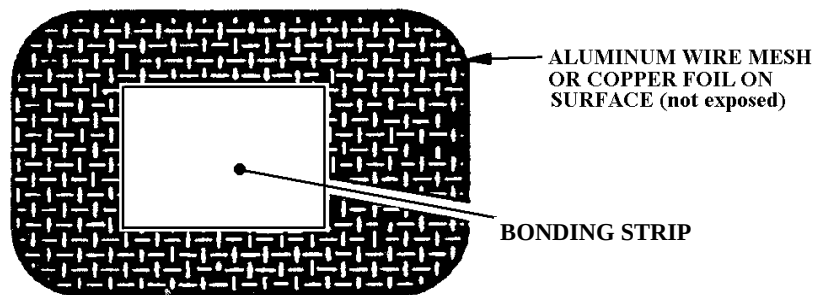

FIGURE 7: REPAIR AREA
6.2.2.6 Cut a piece of FEP (4.12) to the size of the repair area. See Figure 7. Place FEP on repair area.